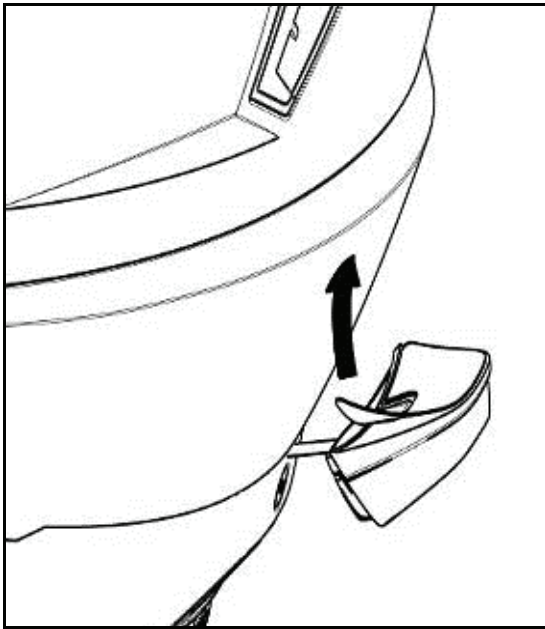
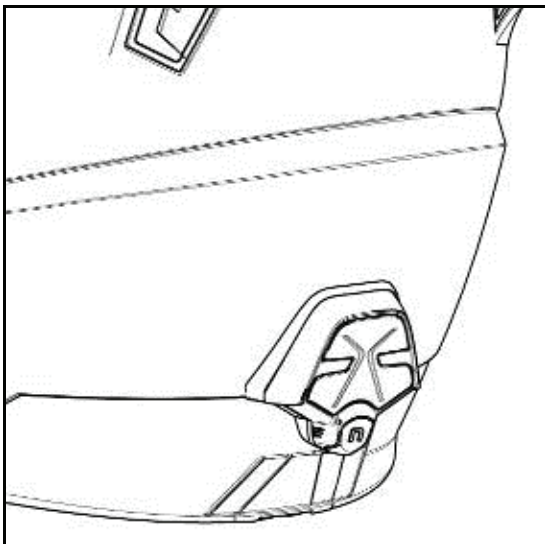

Fig. 8
Fig. 9
- Remove the protective film from the double-sided adhesive tape of the helmet adapter (Fig. 8) and apply the ESS system to the shell (Fig. 9).